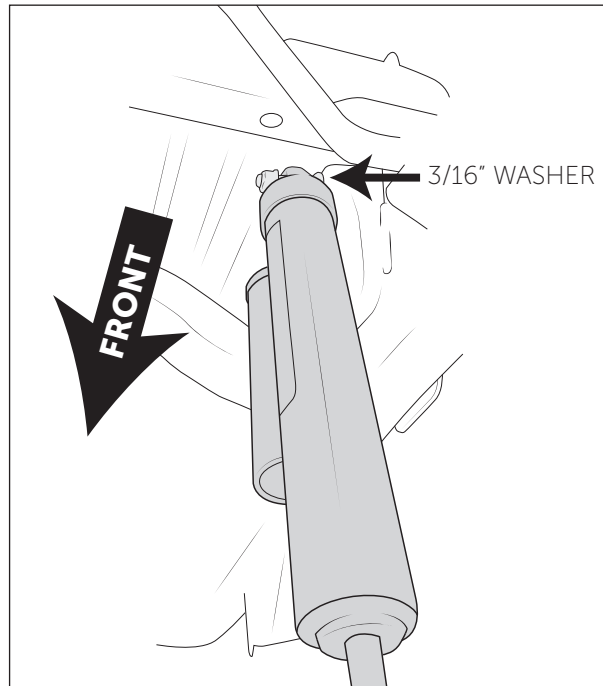

Figure 10
1. Install provided 3/16" thick washers onto upper shock mounting stud. This will prevent the shock body from making contact with the frame. Install shock onto stud with body up and reservoir pointed forward toward front of vehicle (fig. 10). Reinstall factory nut and torque to 111 ft-lb.